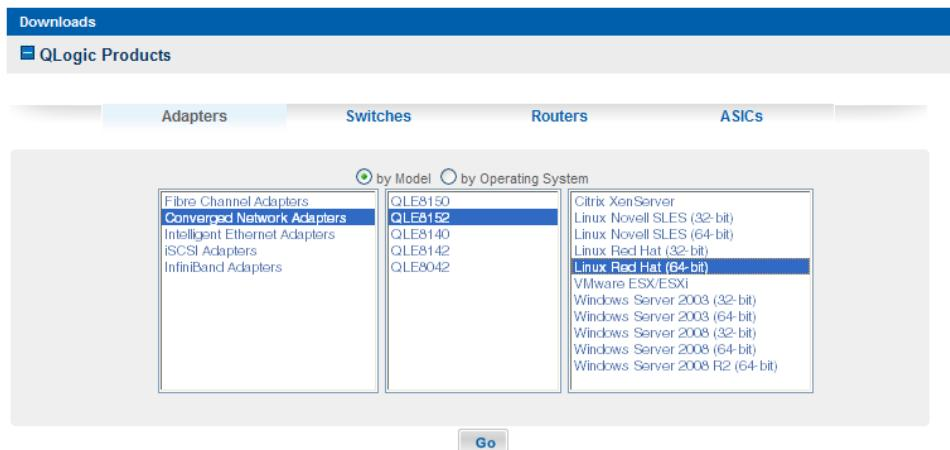

Figure 4-3. Select an Adapter and a Linux Operating System
6. In the third column, click the version of the Linux operating system that is installed on the server, and then click **Go**. For example, in **Figure 4-3**, **Linux Red Hat (64-bit)** is selected for a QLE8152 adapter.